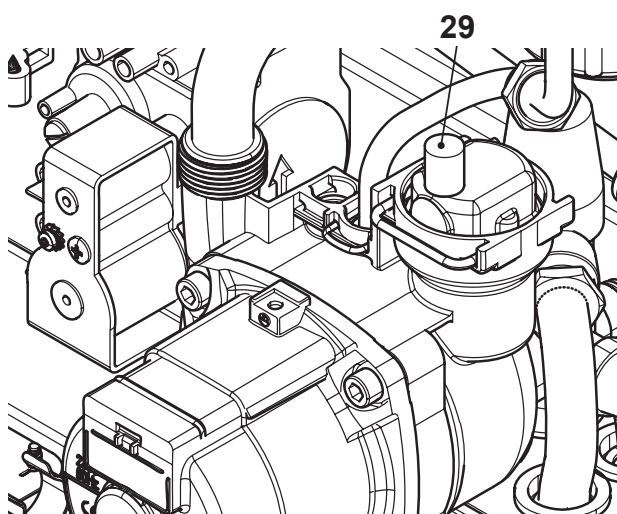

Fig. 9.11
- To make draining easier, lift the plug 29 of the automatic relief valve in Fig. 9.11.